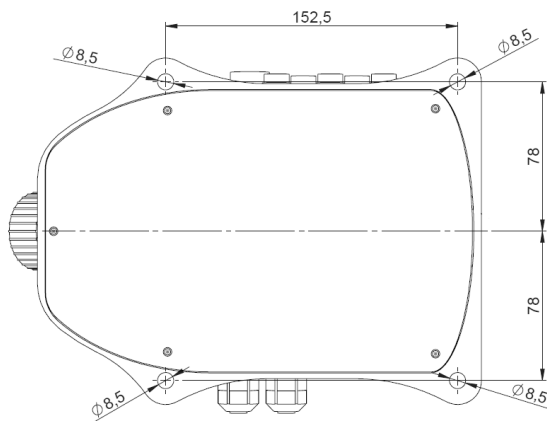

Figure 2 Fastening holes
8. KIT-PRO must be fixed to a stable support by tightening the M8 screws into the $\varnothing 8.5$ holes on the body (Figure 2).